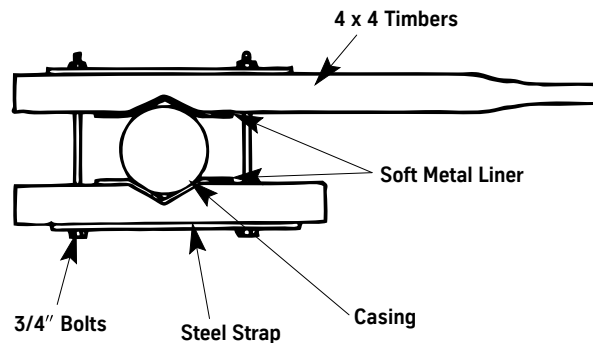

Figure 7 - Casing Clamp
3. Fasten a clamp with a handle around the outside of the lower section of the casing approximately 2' from the top. See Figure 7. Be careful not to overtighten as casing can become oval-shaped.